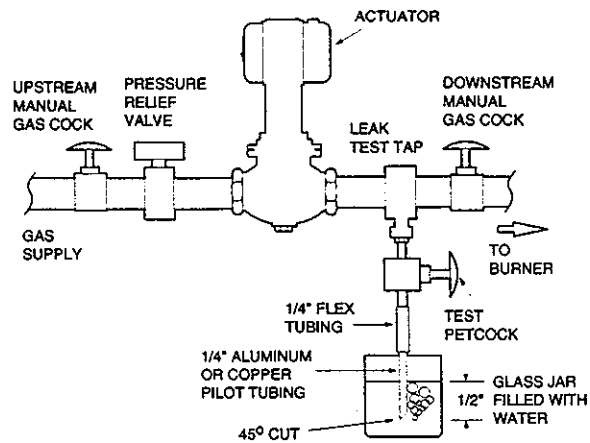

Figure 7. Test Setup for Checking Through-the-Valve Leakage
2. Turn off gas supply at upstream manual gas cock (see figure 7).
4. Remove plug from leak test tap and connect test equipment to leak test tap as shown in figure 7.
8. Immerse 1/4" tube vertically into jar of water about 1/2", as shown in figure 7.